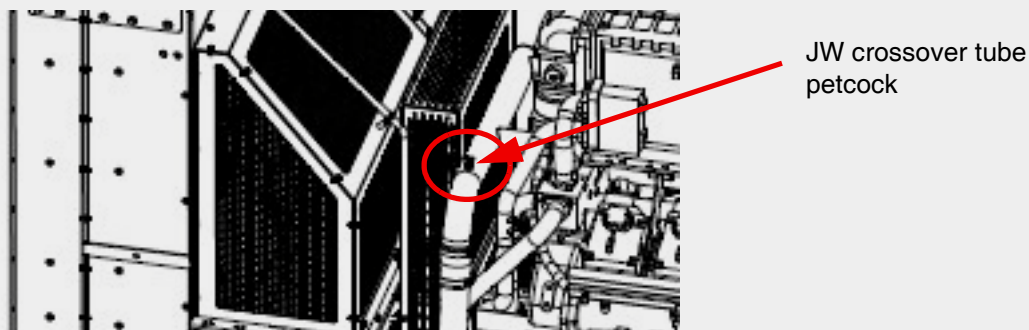

Figure 7-13 JW crossover tube petcock (GenSet left side)
3. If filling the coolant after draining the system (e.g. filling an empty cooling system), twist open the JW petcock on top of the JW crossover tube (shown in Figure 7-13).